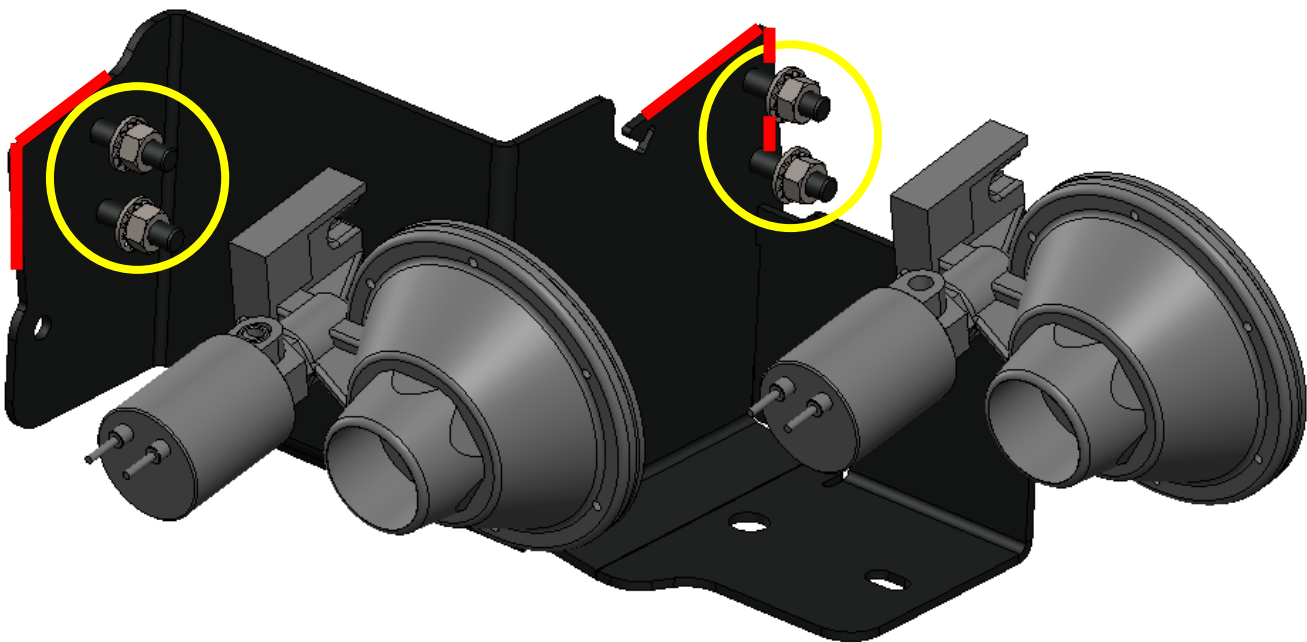

Figure 3 - Horn Driver Installation onto JL-301
9.1.1. Using JL-301, install horn drivers onto studs, following Figure 3, using Hardware #3, #4, & #5. Tighten to 75-88 in-lbs.
NOTE: Make sure edges of horn drivers are parallel to edges of brackets shown in Figure 3 below in red.
NOTE: Make sure solenoid orientation matches Figure 3.